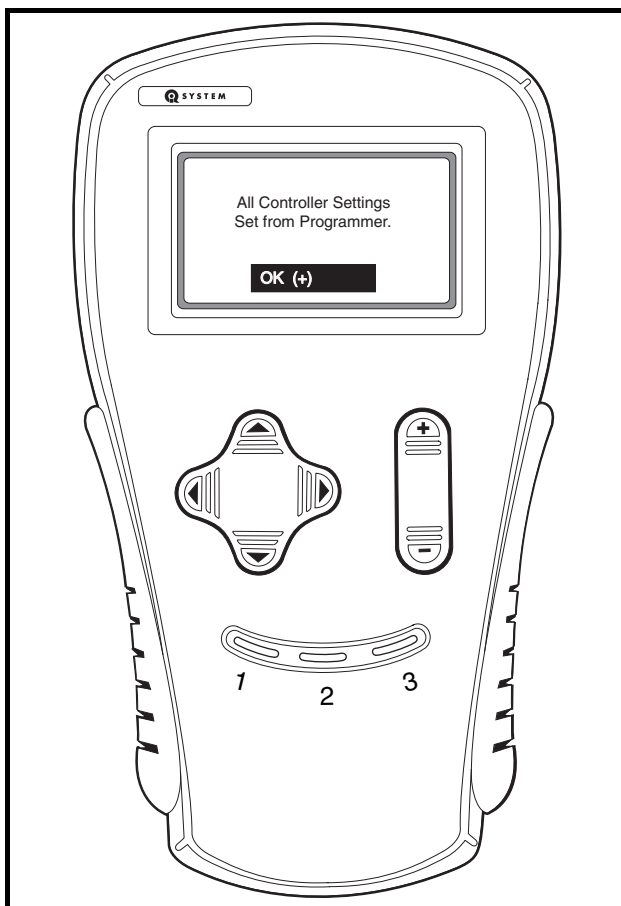

Figure 12-6 Confirmation Message
10. When the handset is finished transferring the speed controller settings, a confirmation message is displayed (**Figure 12-6**).